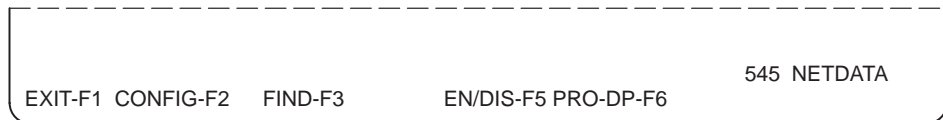

Figure 6-1 Off-Line 505 Base Status Function Key Line
2. Press the SPACEBAR (+) to get the secondary function key line, and then press CONFIO-F3 to get the base status screen. Figure 6-1 shows the function key line.